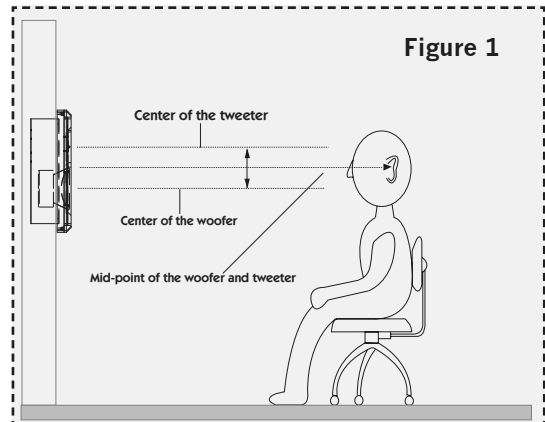

Figure 1
It is recommended, that when ever possible, mount the I/ON passive studio monitor at or about seated ear height, as shown in Figure 1. Please note, that for surround channel monitor placement, this may not always be desirable, in particular for film / post production applications. See item 3 below for more information. Also see item 4 for additional suggestions regarding placement and I/ON orientation options relative to a HDTV image.